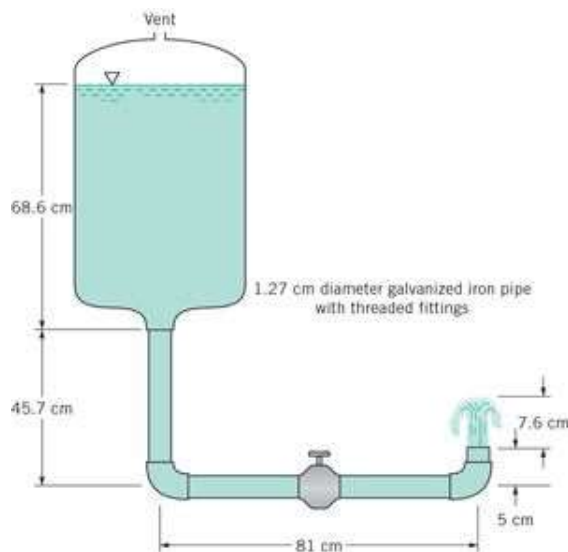

Figure 1. Problem 1.
1. Water flows from the container shown in the Fig. 1. Determine the loss coefficient needed in the valve if the water is to 'bubble up' 7.6 cm above the outlet pipe.